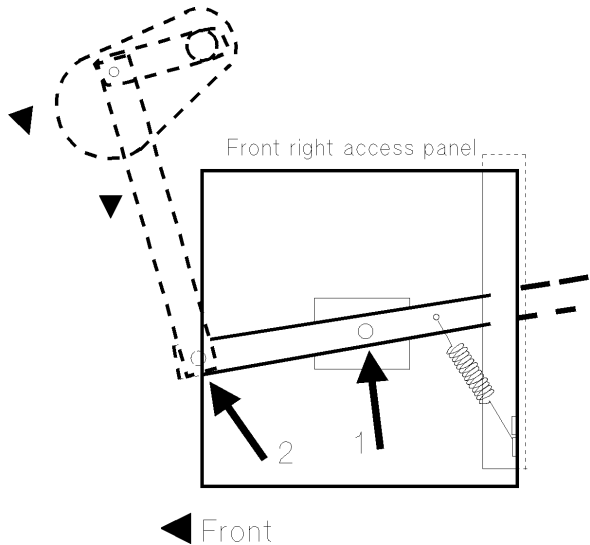

Figure 5-14. Disconnecting the Camlock Linkage
4. Remove the T-15 screw in the pivot point of the camlock linkage. (See Figure 5-14)